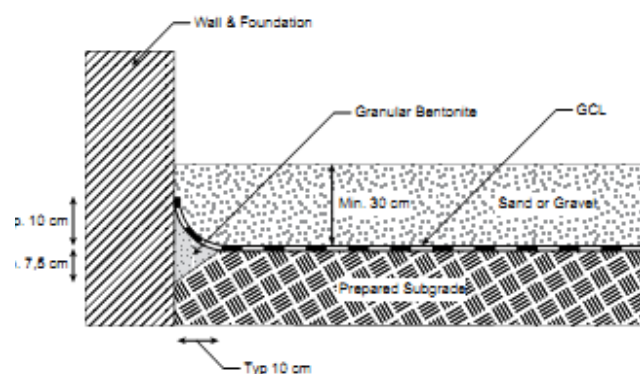

Fig. 16: Cross-section of Claymat GCL seal against an embedded structure or wall
5. When the **Claymat GCL** is terminated at a structure or wall that is embedded into the subgrade on the floor of the containment area, the subgrade should be notched. The notch is filled with granular bentonite; the **Claymat GCL** should be placed over the notch and up against the structure (**Figure 16**). Connection to the structure can be accomplished by placement of soil or stone backfill in this area. When structures or walls are at the top of a slope, additional detailing may be required. Contact **ABG** for specific guidance.